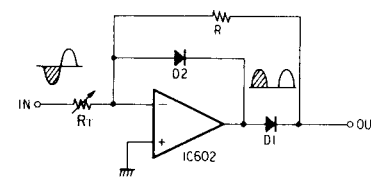

Figure 11
• Peak Indicator Circuit (See Figures 11, 12)